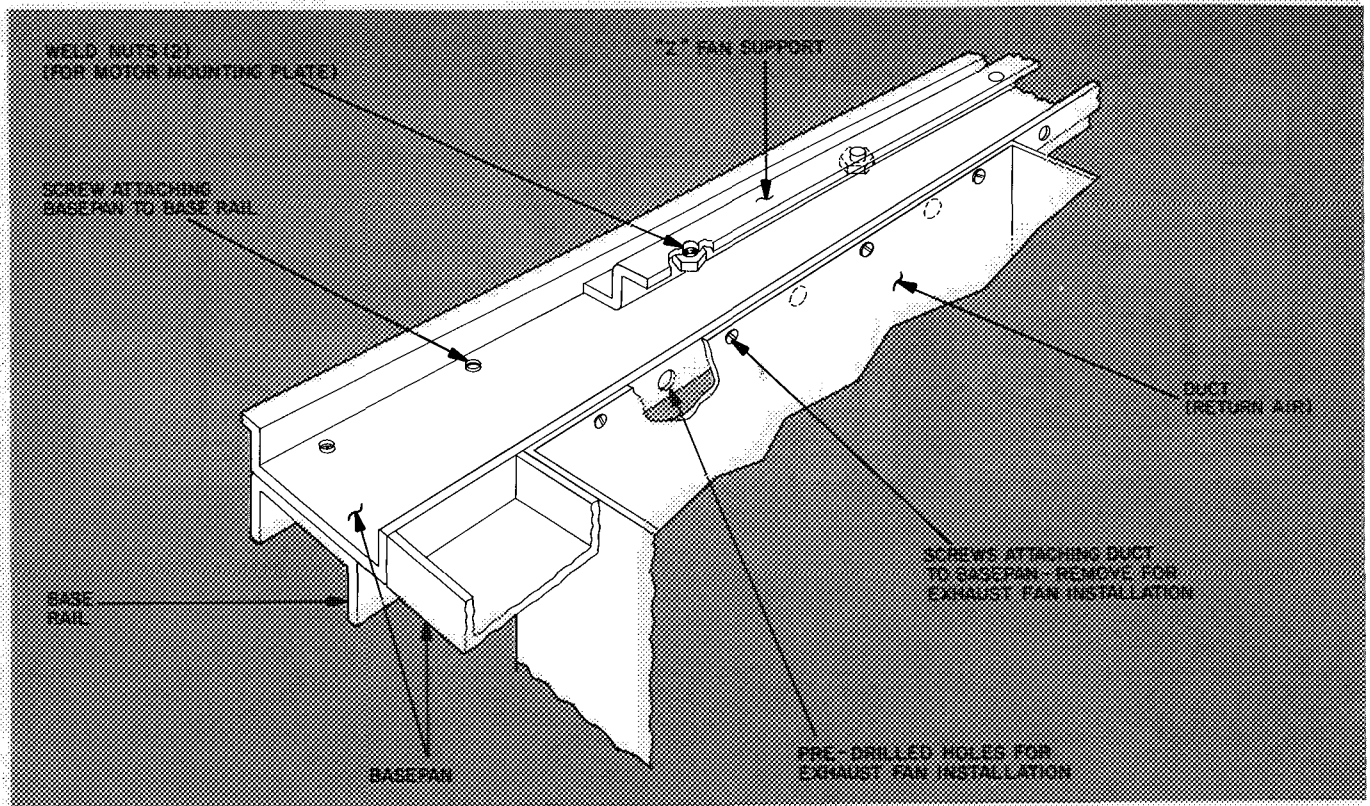
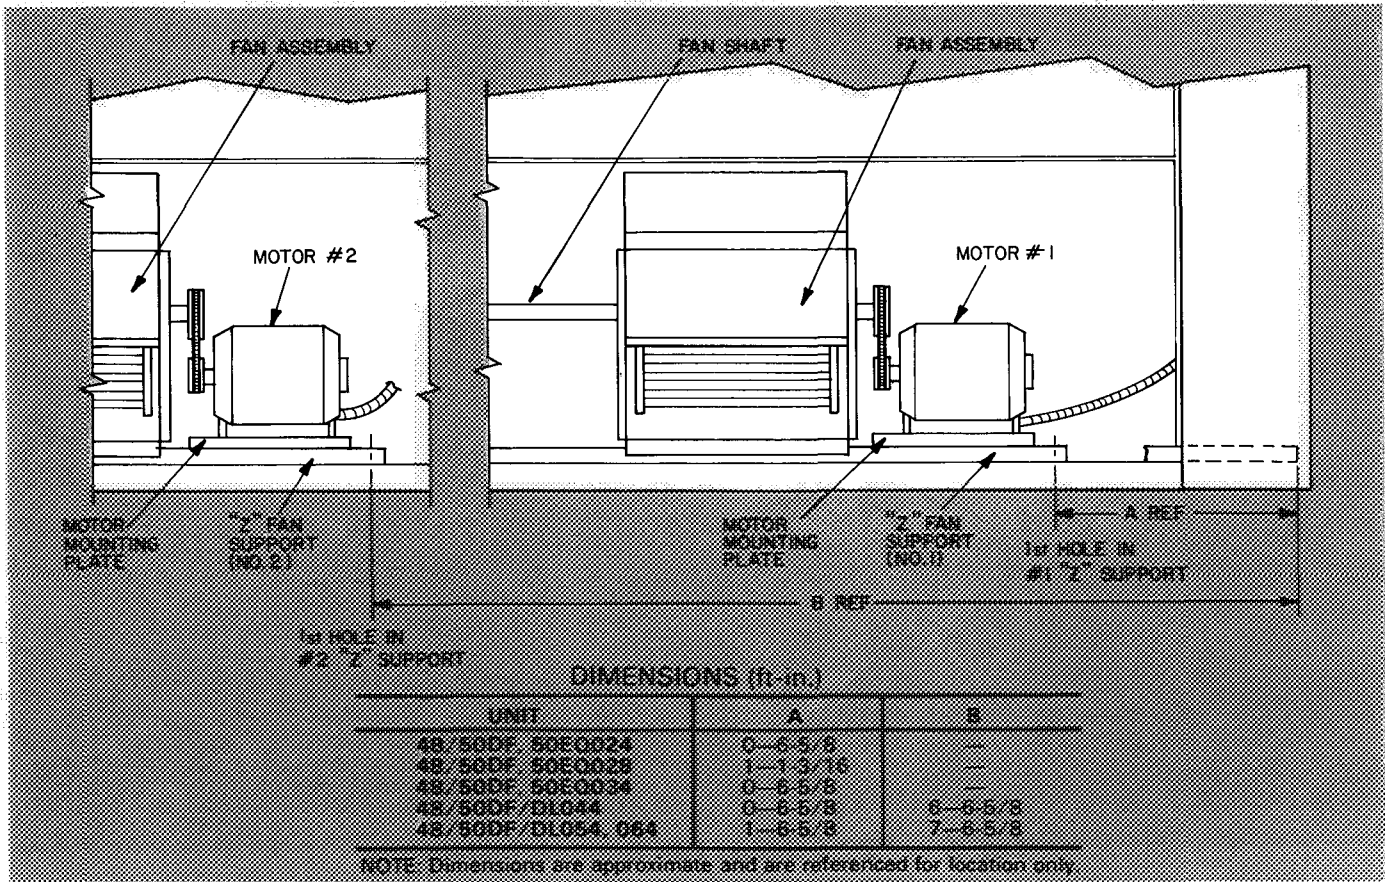

Fig. 3 — "Z" Exhaust Fan Support Installation
Fig. 4 — Accessory Power Exhaust Installation Dimensions
2. If ductwork is attached to basepan in return air opening as shown in Fig. 3, remove screws securing ductwork to edge of basepan. (Screws will interfere with subsequent fan installation.) Using factory-drilled holes in back edge of
3. Remove 5/16-in. screws that secure bottom front of basepan to base rail. (See Fig. 3.) Remove only screws necessary to attach "Z" fan support. (See Fig. 4.) Using same screws, attach "Z" shaped fan support to front of basepan as shown in Fig. 3. Holes in "Z" support are predrilled to mate with holes in basepan. Support is notched to clear center post as required. The 2 holes in upper surface of support with 3/8-16 weld nuts face toward filter access panel end of unit. For 044, 054 and 064 units, 2 "Z" angle supports are required.